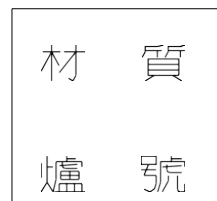

Fig.26
16.2 Heat Number: Fig.26
16.3 Material: Fig.26